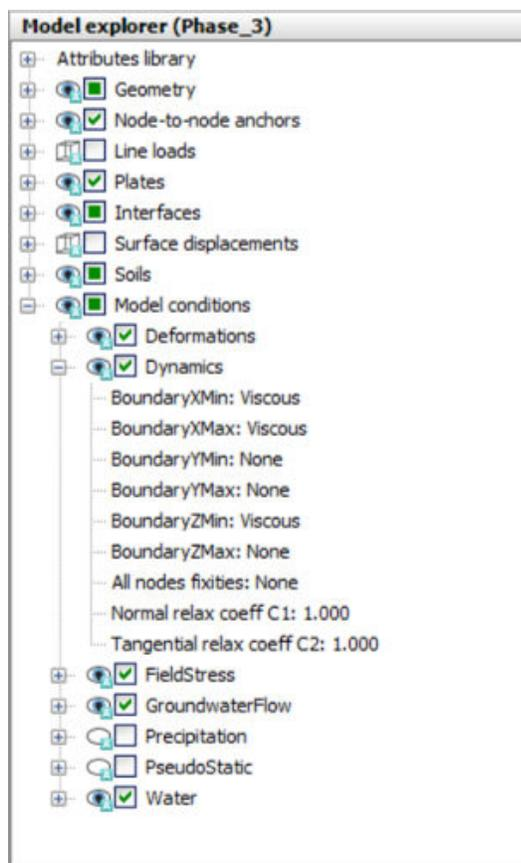

Figure 137: Boundary conditions for dynamics calculations (Phase_3)
6. Expand the **Dynamics** subtree. By default the boundary conditions in the x and y directions are set to viscous. Select the **None** option for the boundaries in the y direction. Set the boundary Zmin to viscous (See Figure 137 (on page 169)).